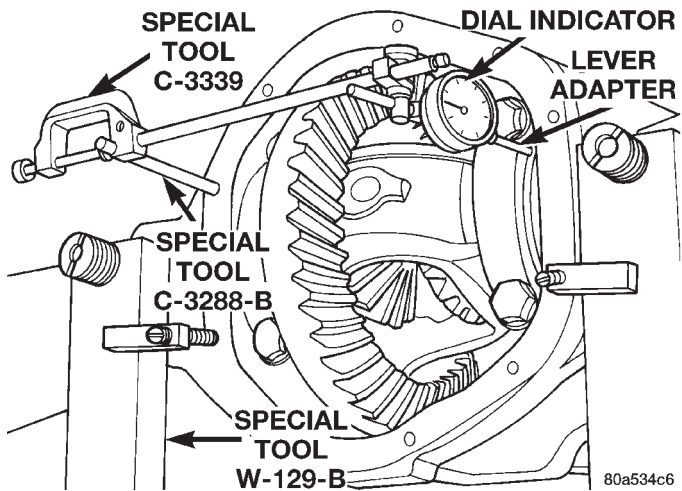

Fig. 33 Install Dial Indicator
(8) Install a Pilot Stud C-3288-B at the left side of the differential housing. Attach Dial Indicator C-3339 to pilot stud. Load the indicator plunger against the opposite side of the housing (Fig. 33) and zero the indicator.
(2) Install a Pilot Stud C-3288-B at the left side of the differential housing. Attach Dial Indicator C-3339 to pilot stud. Load the indicator plunger against the opposite side of the housing (Fig. 33) and zero the indicator.